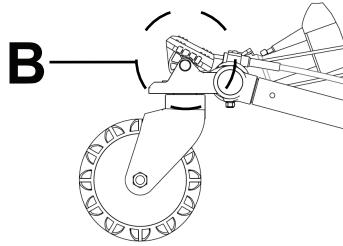

Figure 15 – Steer-Lock on
To apply **Steer-Lock** (B), press the red pedal down and toward the middle of the cot X-frame (Figure 15).